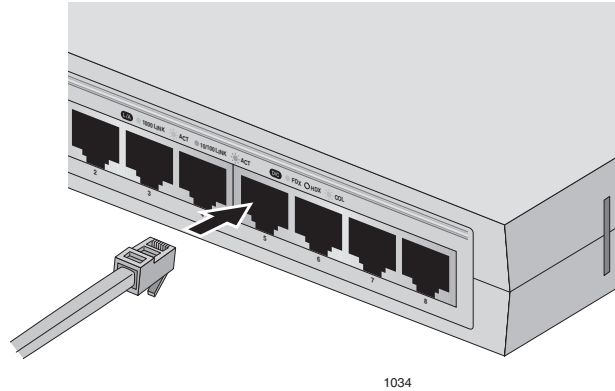

Figure 10. Connecting the Twisted Pair Data Cables
1. Connect the twisted pair data cables to the RJ-45 ports on the switch, as shown in Figure 10.